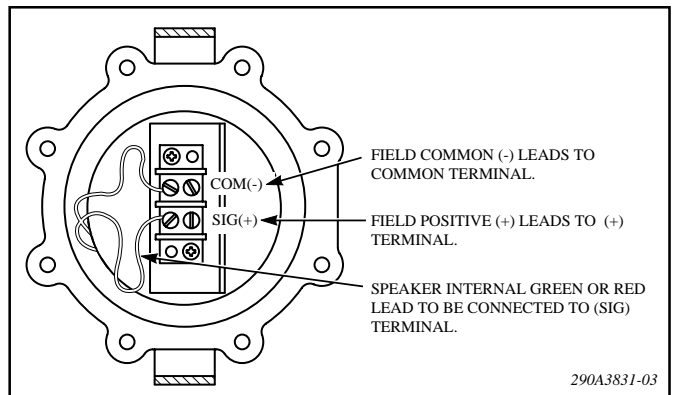

Figure 3. Internal Multi-tap Wiring Set-up.
1. After installation is complete, be sure to test the system to verify that each speaker operates satisfactorily. If it is found that the unit is too loud for its location, a lower wattage tap may be selected. Carefully remove the housing cover and move the speaker internal green or red lead to a lower wattage tap (see figure 3). Reinstall the housing cover and retest.